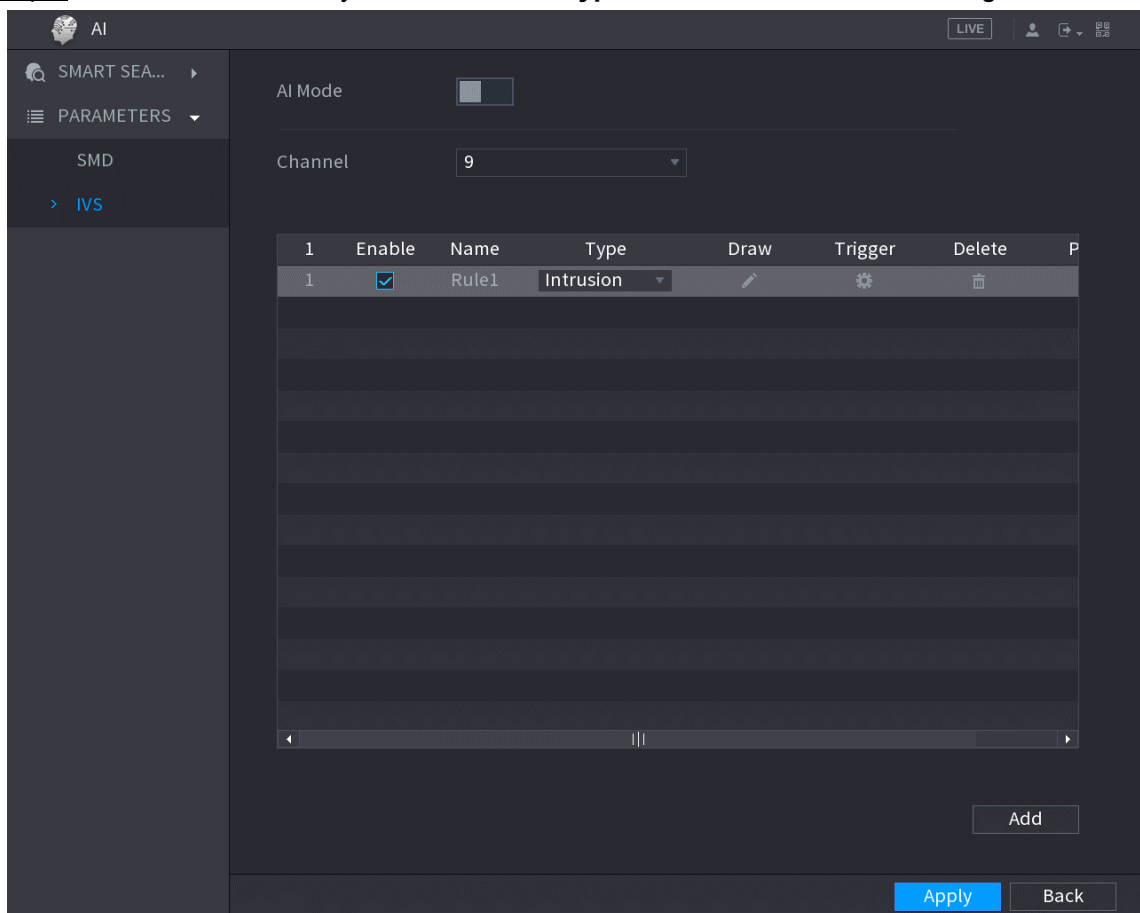

Figure 5-182
Step 1 On the rule line that you added, in the **Type** list, select **Intrusion**. See Figure 5-182.